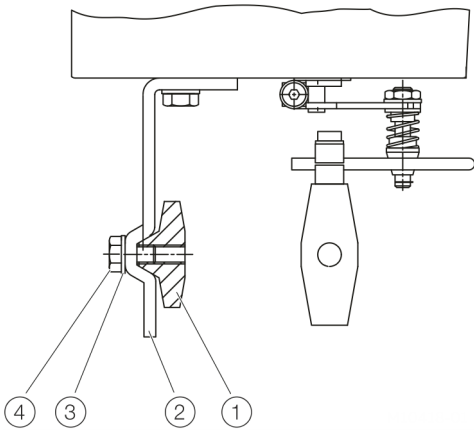

Fig. 7
1. Attach the lever (6) to the feedback shaft (5) of the positioner (can only be mounted in one position due to the cut shape of the feedback shaft). The lever must be set to the corresponding stroke of the valve using the indications on the lever itself.
2. Using the arrow marks (4), check whether the lever moves within the operating range (between the arrows).
3. Hand-tighten the screw (7) on the lever.
8. Set the valve mid stroke and align the lever horizontal (6).
9. Tighten mounting bolt (Fig. 7 Item 4).